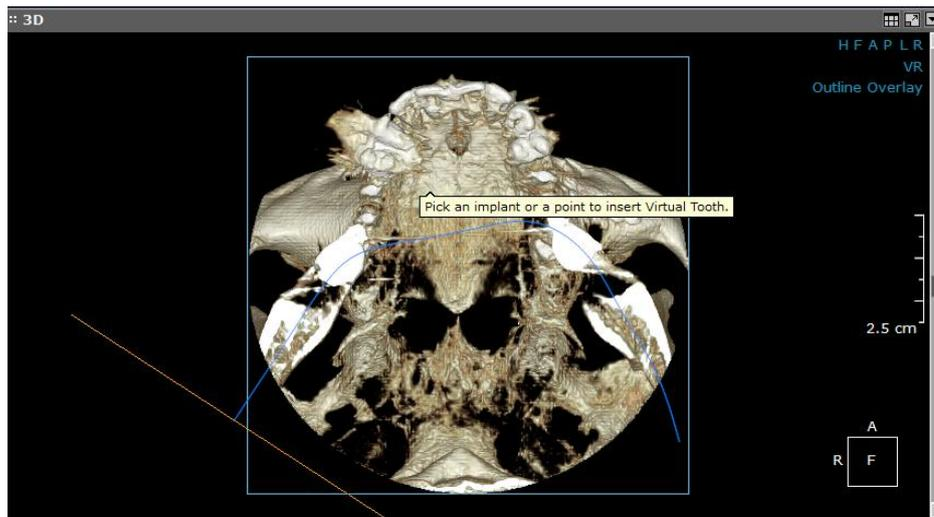
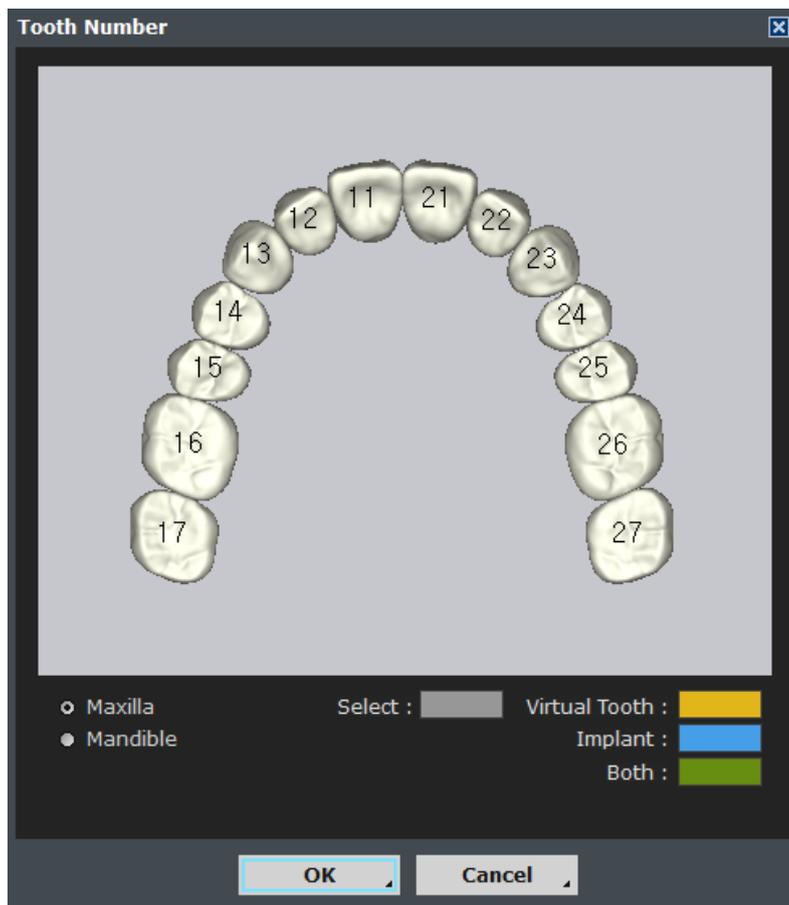

Fig. 93 Before generating a virtual tooth
Fig. 94 Choose the appropriate tooth you want to generate
**Scout.** Users can use the [Scout] image as a guide to switch to a different axial slice or to adjust the region of interest to include less of the whole CT data. If the panoramic image is showing too much of the sinus, the region of interest can be adjusted using this tool, as shown in Fig. 93. As seen in Fig. 94, the blue line refers to the axial slice position. The area within the orange rectangle is the area of interest for the user. If a full skull is not needed, users can set their area of interest by changing the area of the orange rectangle.